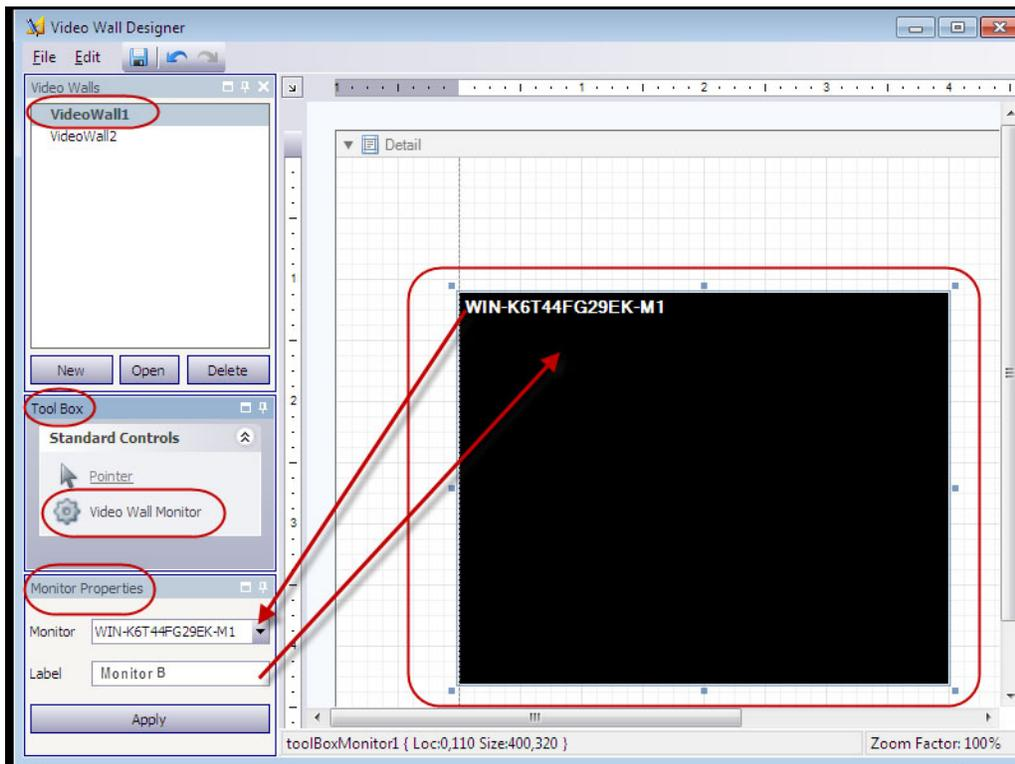

Figure 44. Changing the Label of the monitor
8. A black box including the name of the monitor is displayed in the grid. Click the box to activate it. The name of the monitor is displayed in **Monitor Properties** in the left pane in the **Monitor** and **Label** fields (Figure 44 on page 79).